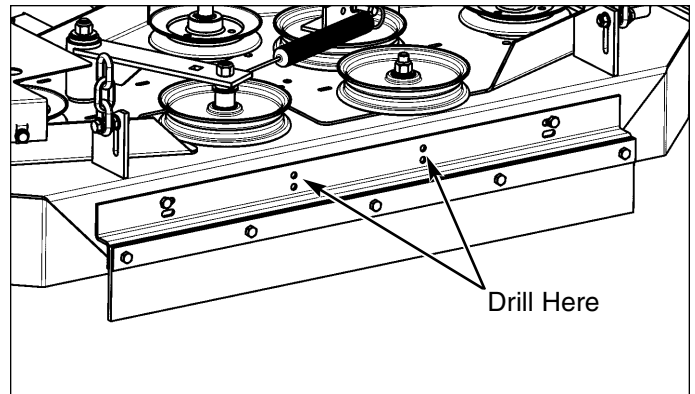

Figure 4. Drill Holes & Install Hardware
7. See Figure 4. Using the inner mounting holes as a guide, drill two 5/16" holes through the mower deck. Before drilling, note which holes the outer mounting bolts are located in. Make sure the inner mounting holes are drilled in the same location (upper or lower).